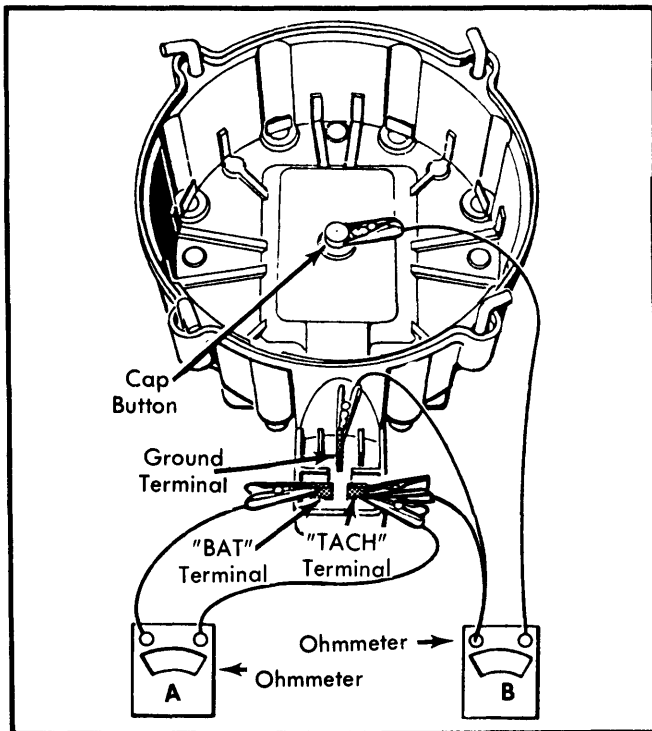

Fig. 6 Distributor Cap and Coil Testing Connections for Delco-Remy HEI Distributor
2) To test coil primary resistance, connect 1 ohmmeter lead to "BAT" terminal on distributor cap and other lead to "TACH" terminal on cap. See "A" in Fig. 6. Ohmmeter reading should be 0.4-1.0 ohm. If not to specifications, replace ignition coil.
3) To test coil secondary resistance, connect 1 ohmmeter lead to coil secondary contact (center button inside cap) and other lead to "TACH" terminal. See "B" in Fig. 6. Ohmmeter reading should be infinity.